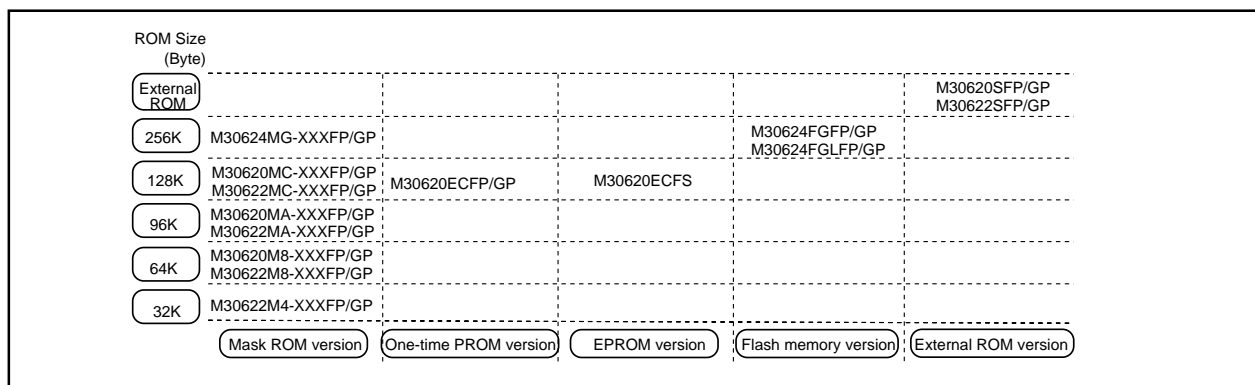

Figure 1.1.4. ROM expansion
- Memory capacity ..... ROM (See Figure 1.1.4. ROM Expansion)